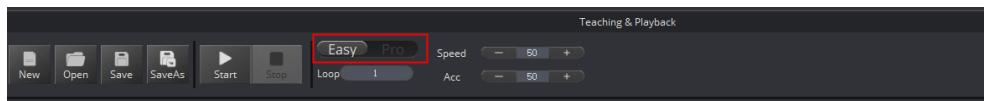

Figure 5.180 Switch advanced function
**Step 1** Click **Easy** icon on the **Teaching&Playback** page, as shown in Figure 5.180.